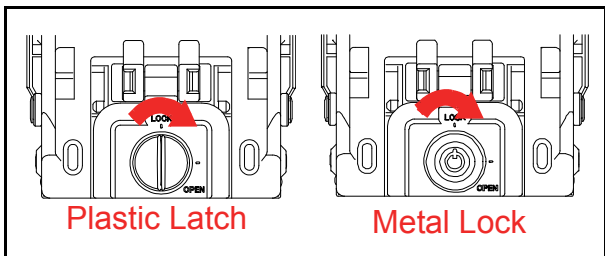

Figure 24 JAM Clear 5
5. When a jammed Banknote is not visible, rotate the Plastic Latch or the Metal Lock clockwise until in the “OPEN” position and the lock releases (Figure 24).